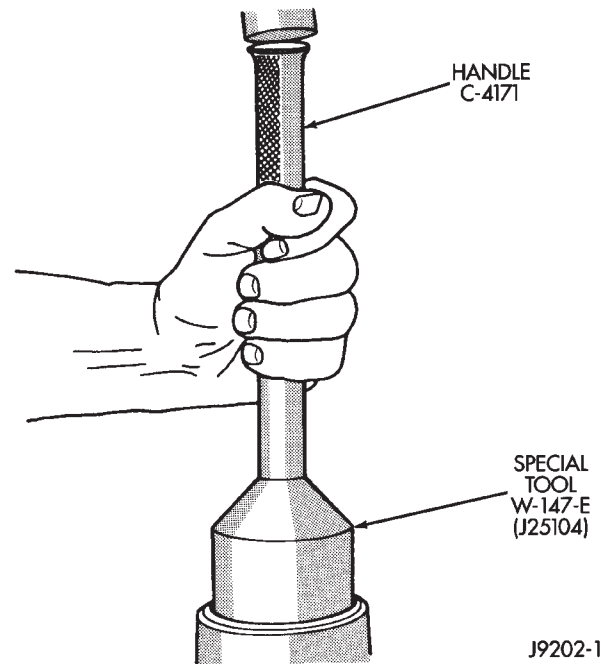

Fig. 4 Pinion Seal Installation
(1) Apply a light coating of gear lubricant on the lip of pinion seal. Install seal with Installer W-147-E and Handle C-4171 (Fig. 4).
(2) Align the installation reference marks and install yoke on the pinion gear with Installer W-162-D.
(3) Install a new nut on the pinion gear. **Tighten the nut only enough to remove the shaft end play.**